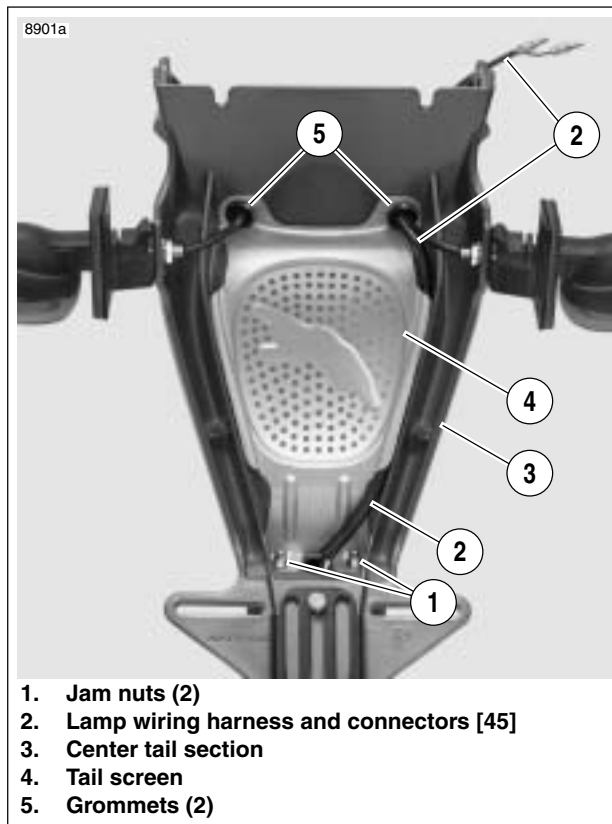

Figure 7-50. License Plate Lamp Mounting
2. See Figure 7-50. Disconnect the two connectors [45] from license plate lamp harness (2).
3. Remove two jam nuts and washers (1) to detach license plate lamp from center tail section (3).
1. See Figure 7-50. Install license plate lamp assembly.
- a. Insert license plate lamp wiring harness (2) through hole at rear of center tail section (3) and route between the tail section and the tail screen (4).
- b. Attach lamp assembly to tail section using washers and jam nuts (1) and tighten to 12-36 in-lbs (1.4-4.1 Nm).
- c. Attach the two connectors [45] from license plate lamp harness (2) to main harness.